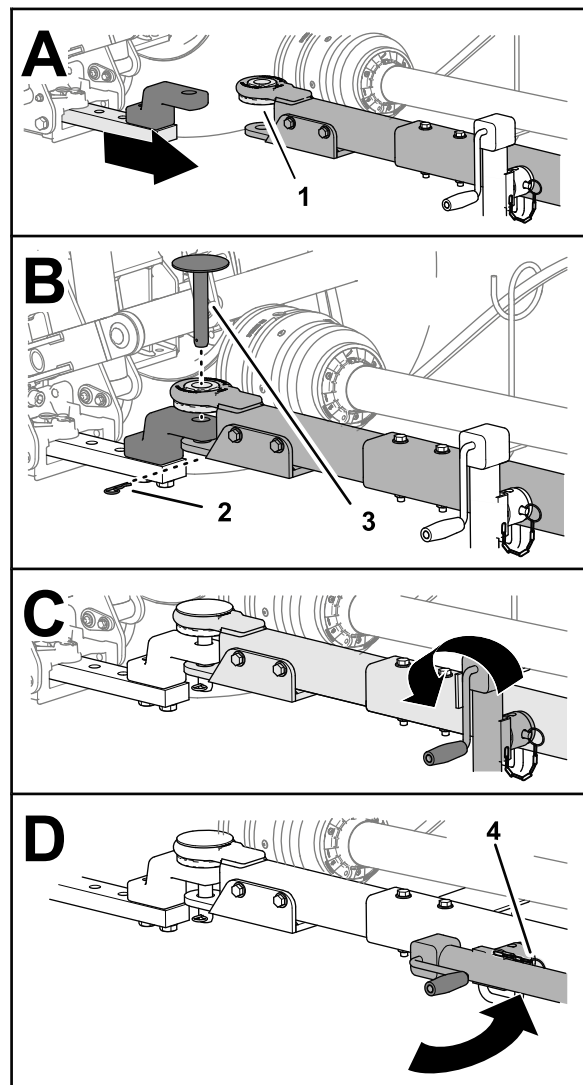

Figure 29
- If your mower has a pin tow bar, insert the hitch pin through the holes in the tow bar and drawbar and secure the pin with the hairpin (Figure 29).
6. Fully raise the jack (Figure 29).
7. Remove the pin that secures the jack to the tow bar, rotate the jack horizontal, and secure the hack to the tow bar with the pin (Figure 29).